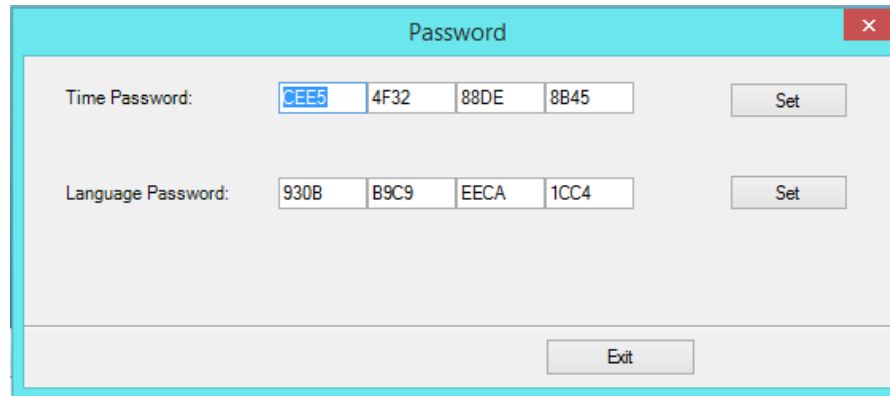

Fig 40: The Password Window
Step 2: Set values in the **Time Password** field as per the requirements (Refer to Fig 40).
Step 3: After feeding the passwords, click on the **Set** button in front of both the options (Refer to Fig 40).
Step 4: Click on the **Exit** button to close the **Password** window (Refer to Fig 40).
- Password Screen (Refer to Fig 40)